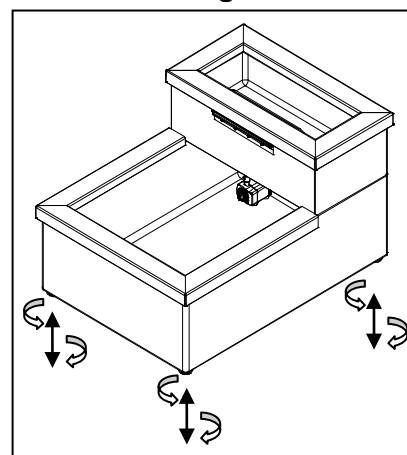

Fig. 10
10. Adjust the height of foot as needed. Fig. 10